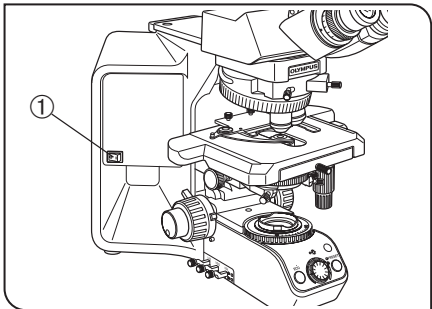

Fig. 1
⚠ SAFETY PRECAUTIONS (Fig. 1)
6. To avoid potential shock hazards and burns when replacing the light bulb, set the main switch ① to "○" (OFF) then disconnect the power cord from the wall outlet in advance. Whenever you replace the bulb during use or right after use, allow the lamp housing, and bulb to cool before touching. (Fig. 1)